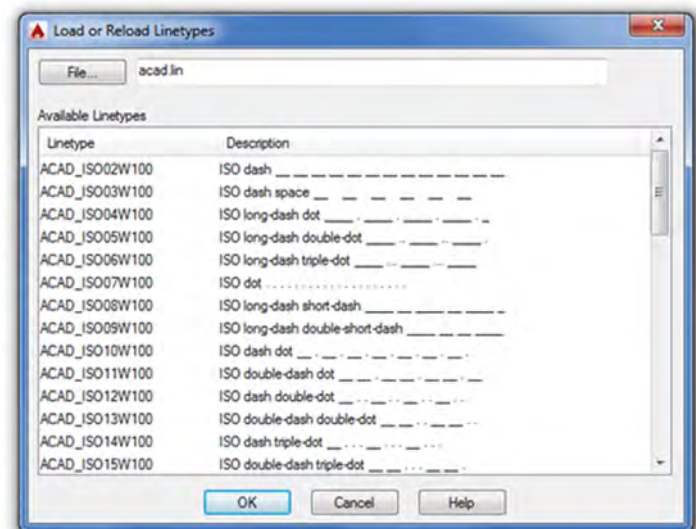

FIGURE 3.8
Step 2. Press `Load...` The Load or Reload Linetypes box comes up (Figure 3.8).